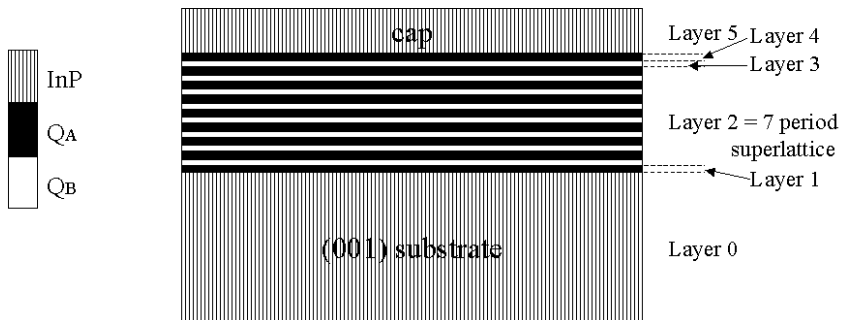

Figure 5-5: Device Structure with Seven Quantum Wells on InP
Figure 5.5 shows the structure of the sample for which we are going to create a sample file:
- Enter 250 for the “Thickness (um)” (as for layer 0 in Figure 5-5).
Now we want to set the default Zinc Blende layer to Q_A - the composition of layers 1, 2.1 and 4 in Figure 5-5.
To create the sample file for the structure shown in Figure 5-5.